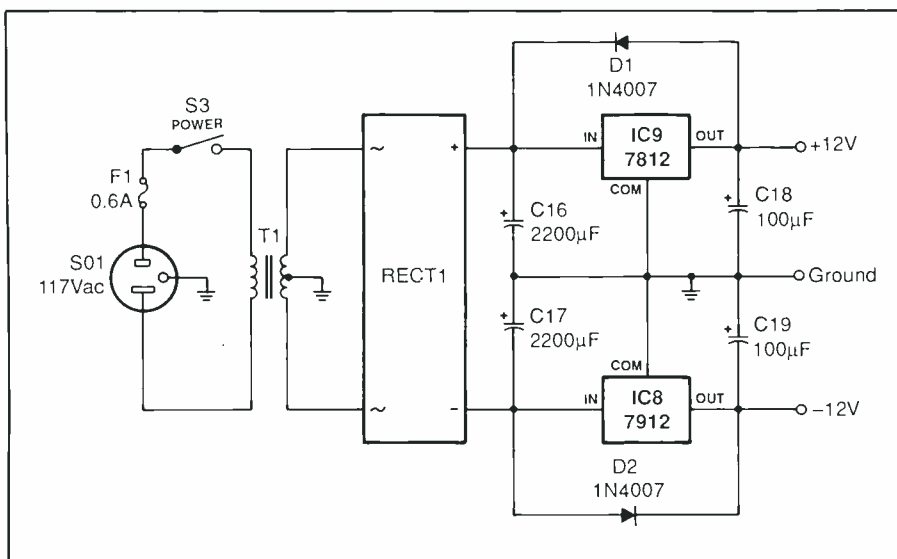

Fig. 9. Schematic of ac-line-powered  $\pm 12$ -volt dc supply recommended for powering the project.
Dc power for the project can be supplied by a pair of 9- to 12-volt dc batteries. However, it is better to use an ac-operated dc power supply. The schematic diagram for this power supply circuit is shown in Fig. 9. This is a standard  $\pm 12$ -volt, 250-milliamperere supply. Bridge rectifier *RECT1* should be rated at not less than 50 volts and 1 ampere PIV, while power transformer *T1* should be either a 12-0-12 volt ac or 25.6-volt ac center-tapped unit rated to deliver at least 250 milliamperes.
Carefully follow Fig. 4 (A) and (B) for wiring the main circuit and Fig. 9 for wiring the power-supply circuit. As you make each conductor and component run, trace it on the appropriate schematic diagram or a photocopy of it. This way you will keep track of what you have done and what remains to be done. Do *not* install the ICs in their sockets until after you have made preliminary voltage checks to ascertain that the circuit has been correctly wired.